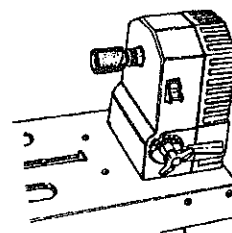

Fig.H-11
3. Install the Drum Sander on the drive shaft. See Fig.H-11. Use Speed Settings 5- 5-1/2.